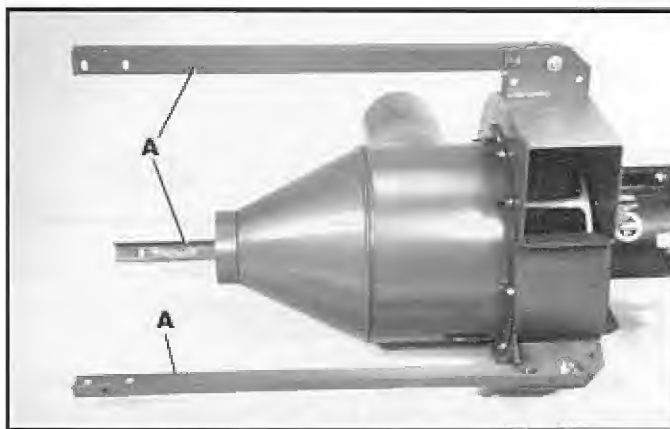

Fig. 10
3. Fig. 10, illustrates upper legs (A) assembled to blower assembly.